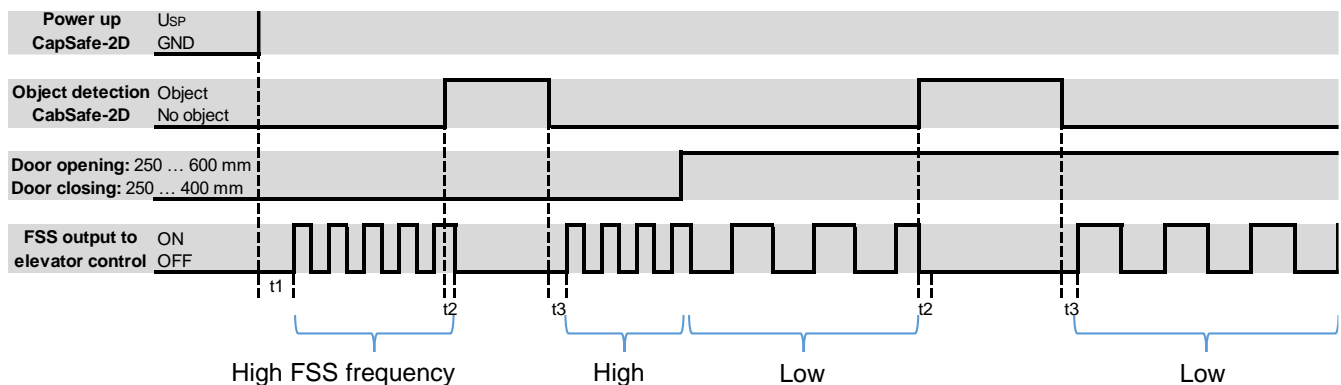

Figure 12: Timing diagram (for FSS frequencies check chapter 4.17.4)
When an object enters the safeguarded area (OBJECT DETECTED) the cegard/Pro (CabSafe 2D) light curtain output changes state after response time t_2 (see Figure 12). When the object leaves the safeguarded area (NO OBJECT) the cegard/Pro (CabSafe 2D) light curtain output switches back after release time t_3 (see Figure 12).
default logic is Light ON (LO) (which is shown in Figure 12). The output logic is LO if the gray wire is connected to GND (0 V). Connecting the gray wire to U_{SP} changes the output logic to Dark ON (DO).
Table 4: Descriptions for the timings in Figure 12